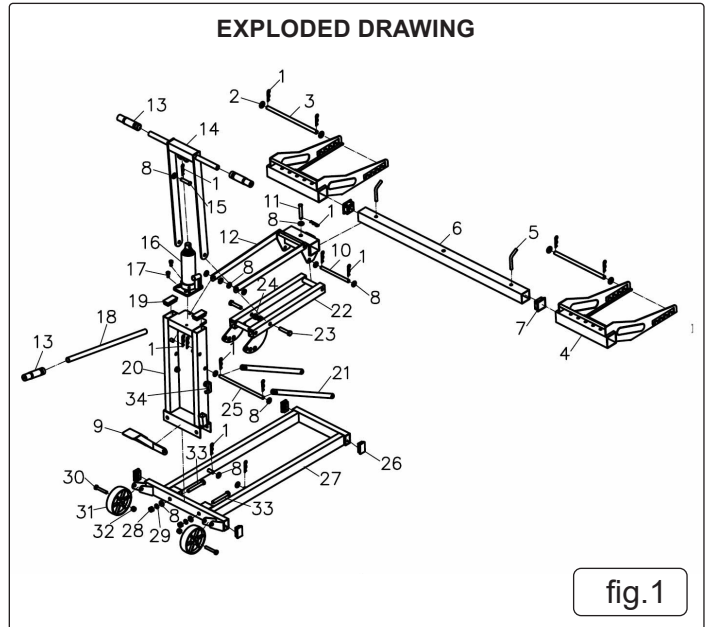
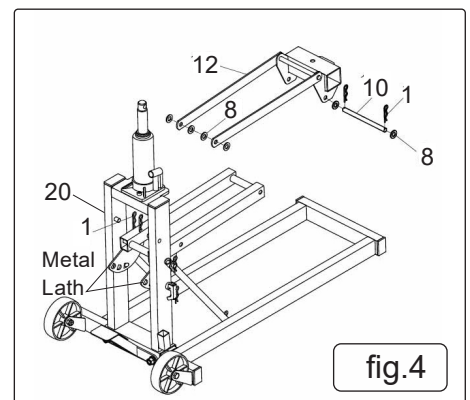
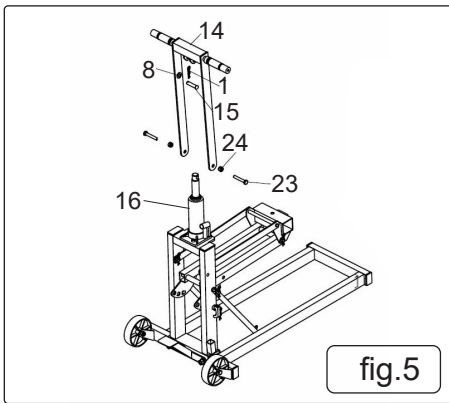

fig.1
fig.4
fig.5
- 4.1.5. Move the two Safety Lock Lever (34) to the unlocked position, keeping the Lift Rotating Frame level. Place the Follow Rotating Frame (Upper) (12) onto the Lift Rotating Frame (22) as shown. Align the holes. Slide Pin (10) through Lift Rotating Frame (22) and follow Rotating Frame (Upper) (12). Place Flat Washer (8) over each end of the Pin (10). Secure each end of the Pin (10) with Small R-Clip (1). (See fig.1).
- 4.1.7. Place Jack Lifting Frame (14) onto the Bottle Jack (16). See fig 5. Slide Pin (15) through Jack Lifting Frame (14) and Bottle Jack (16). See fig.5. Place Flat Washer (8) over each end of the Pin (10). See fig.4. Secure each end of the Pin (10) with Foot Pedal (9). See fig.1.
- 4.1.8. Attach the Lift Rotating Frame (22) to Jack Lifting Frame (14) to Lift Rotating Frame (22) as shown in fig .4. Secure in Place using Hex Head Bolt (23) and Nyloc Nut (24). See fig.5.
- 4.1.9. Insert Extension Beam (6) through the bracket on the Follow Rotating Frame (Upper) (12). See fig.1. Insert Extension Beam Pin (11) through center of bracket. See fig.1. Secure the Extension Beam Pin (11) with Foot Pedal (9). See fig.1.